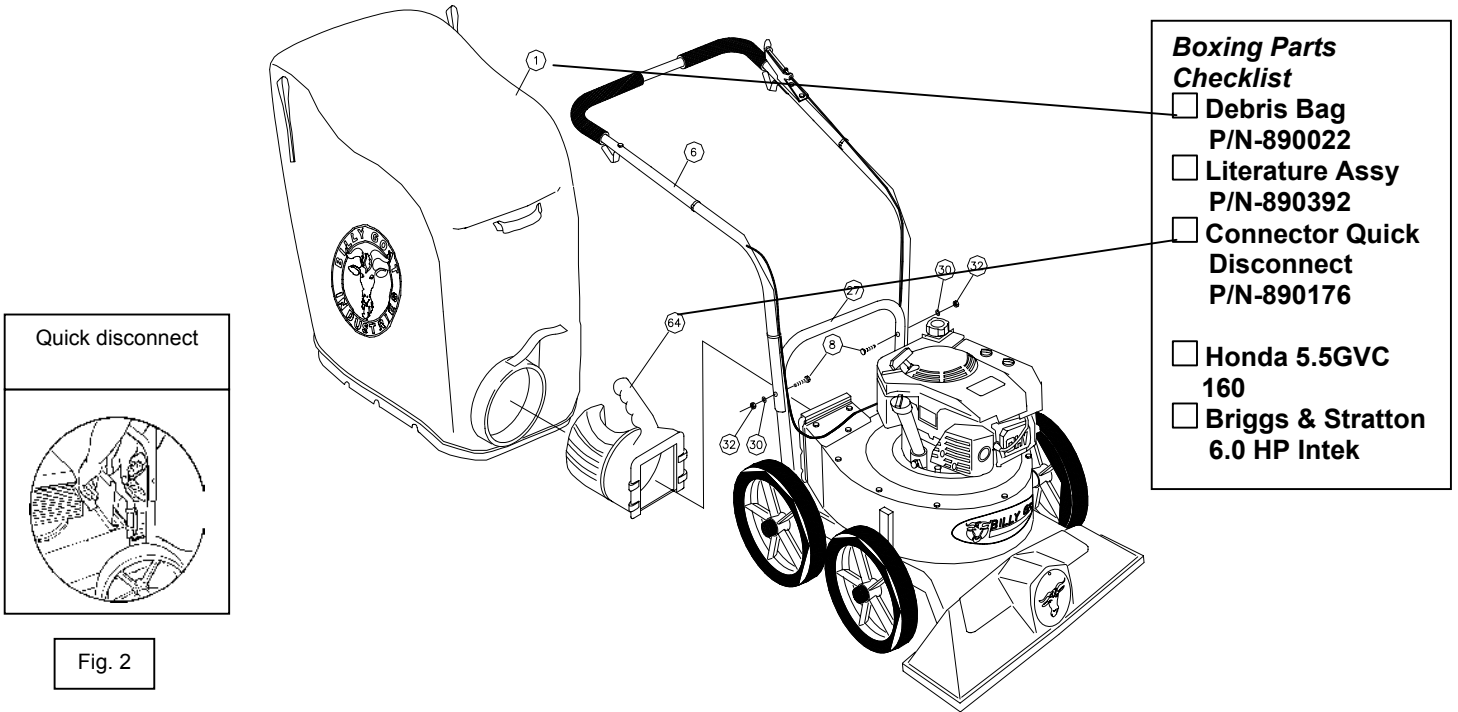

Fig. 2
1. **ASSEMBLE** Lift upper handle (item 6), remove items 8, 30, & 32 from lower handle (item 27). Attach and secure upper handle as shown using same hardware.
2. **UNFOLD** the debris bag (item 1) and fasten bag neck to bag quick disconnect (item 64). Attach firmly to housing exhaust (item 52) see fig. 2.
3. **ATTACH** bag hanger strap to bag supports (item 11), preassembled to upper handle.